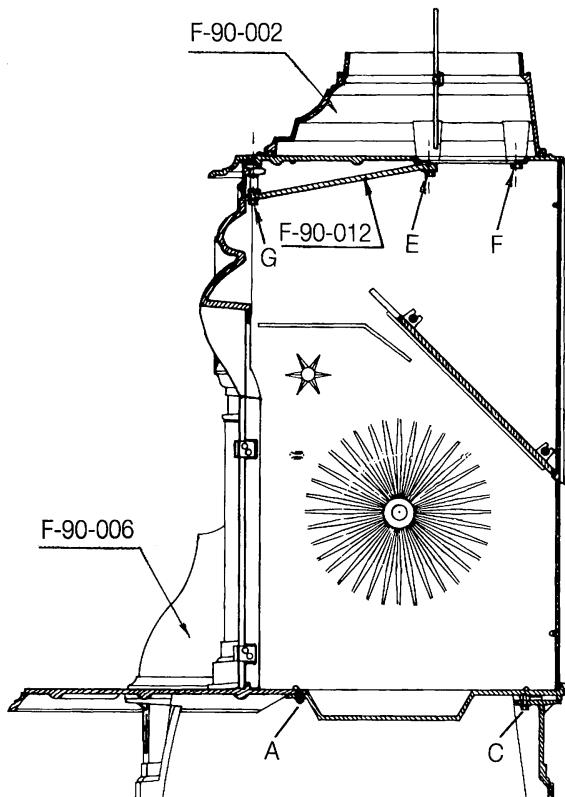

Fig. 4
7. To assemble the wings, fit them next to their own columns and fix them using four (M.6x10, roundhead) screws. (Fig. 4).